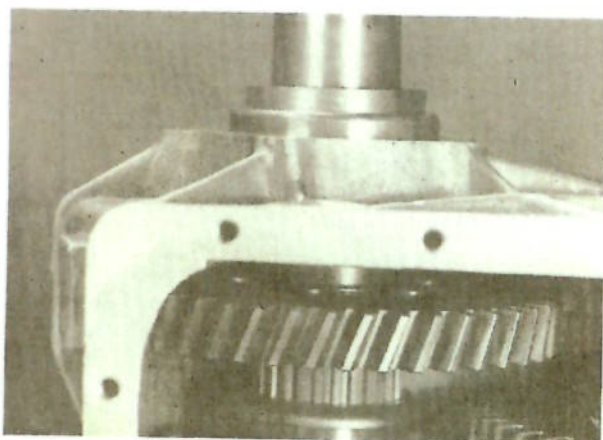

FIG. 19 - INSTALLING THE CUP OF REAR TAPERED ROLLER BEARING IN THE TRANSFER CASE.
33. Using a hammer and appropriate size piece of tubing, carefully seat the cup of the rear tapered roller bearing in the case, (Fig. 19).